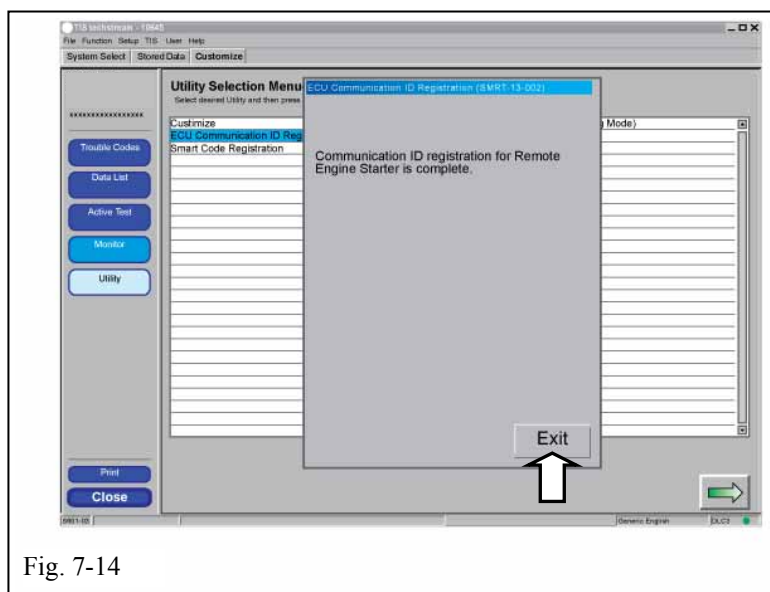

Fig. 7-14
- (bb) Click “Exit.” (Fig. 7-14)